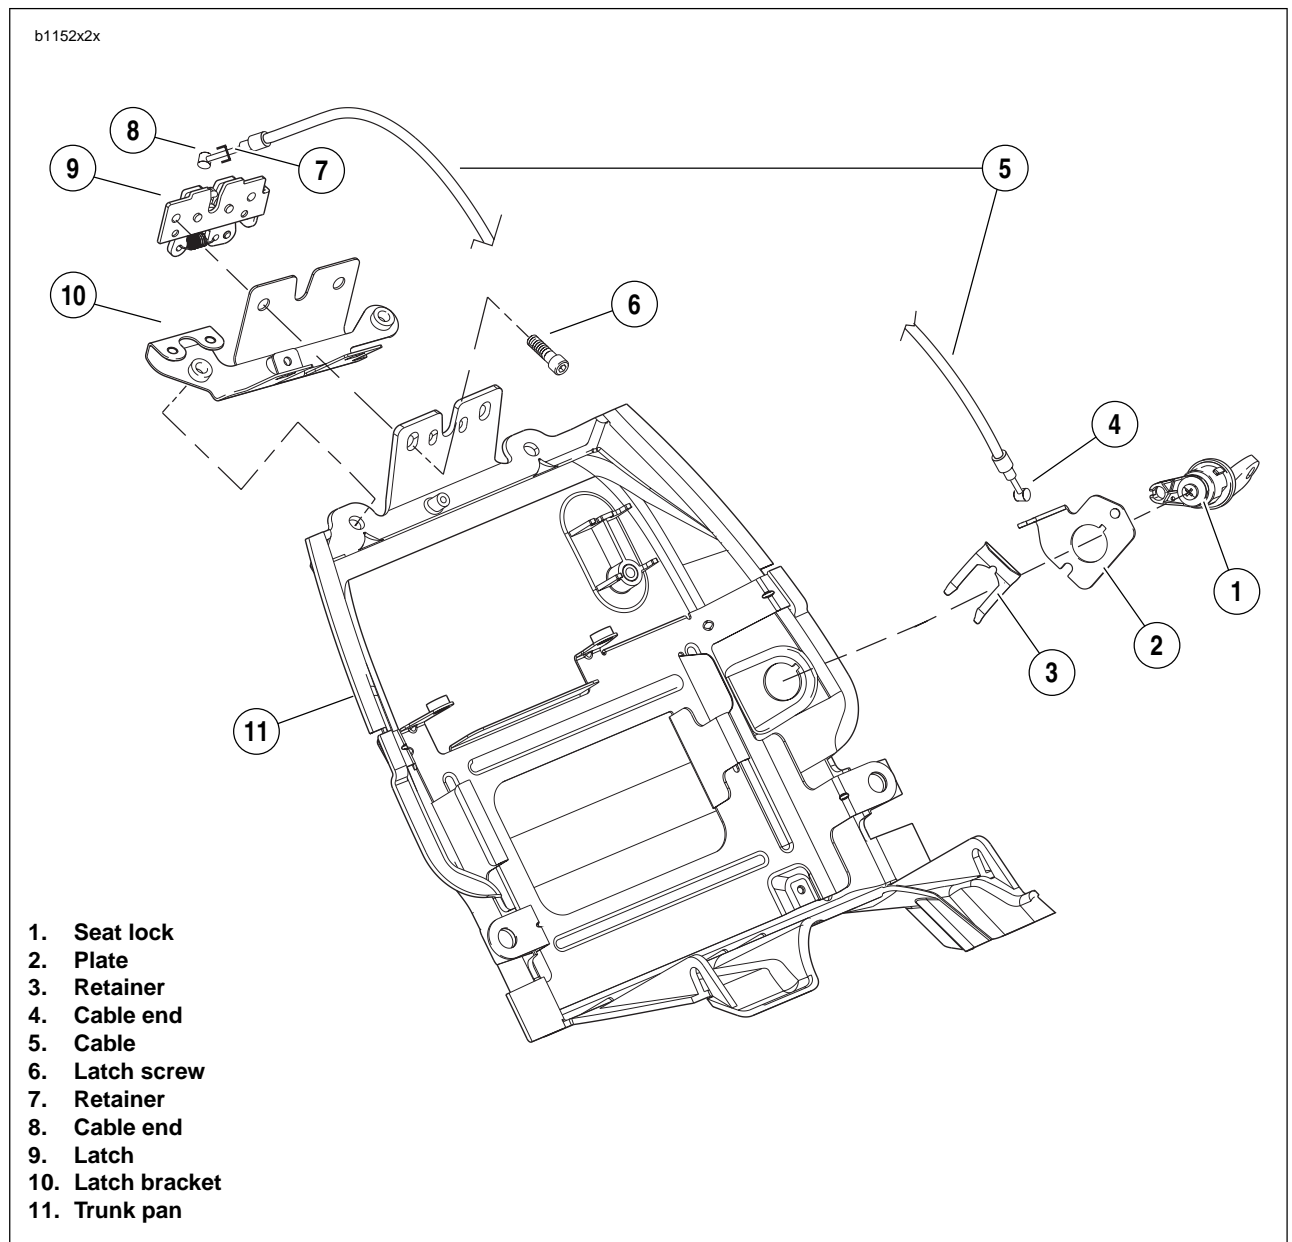

Figure 2-126. Seat Lock Assembly
3. See Figure 2-126. Disconnect seat lock cable:
- a. Remove latch (9) from latch bracket (10) by removing two fasteners (6).
- b. Slide retainer (7) away from cable end (8).
- c. Remove cable end (8) and cable (5) from latch.
- a. Remove seat lock retainer (3) from seat lock (1).
- b. Remove seat lock (1) from plate (2) and trunk pan (11).
1. See Figure 2-126. Install cable (5) into plate (2).
2. Install the seat lock (1) into trunk pan (11) and plate (2).